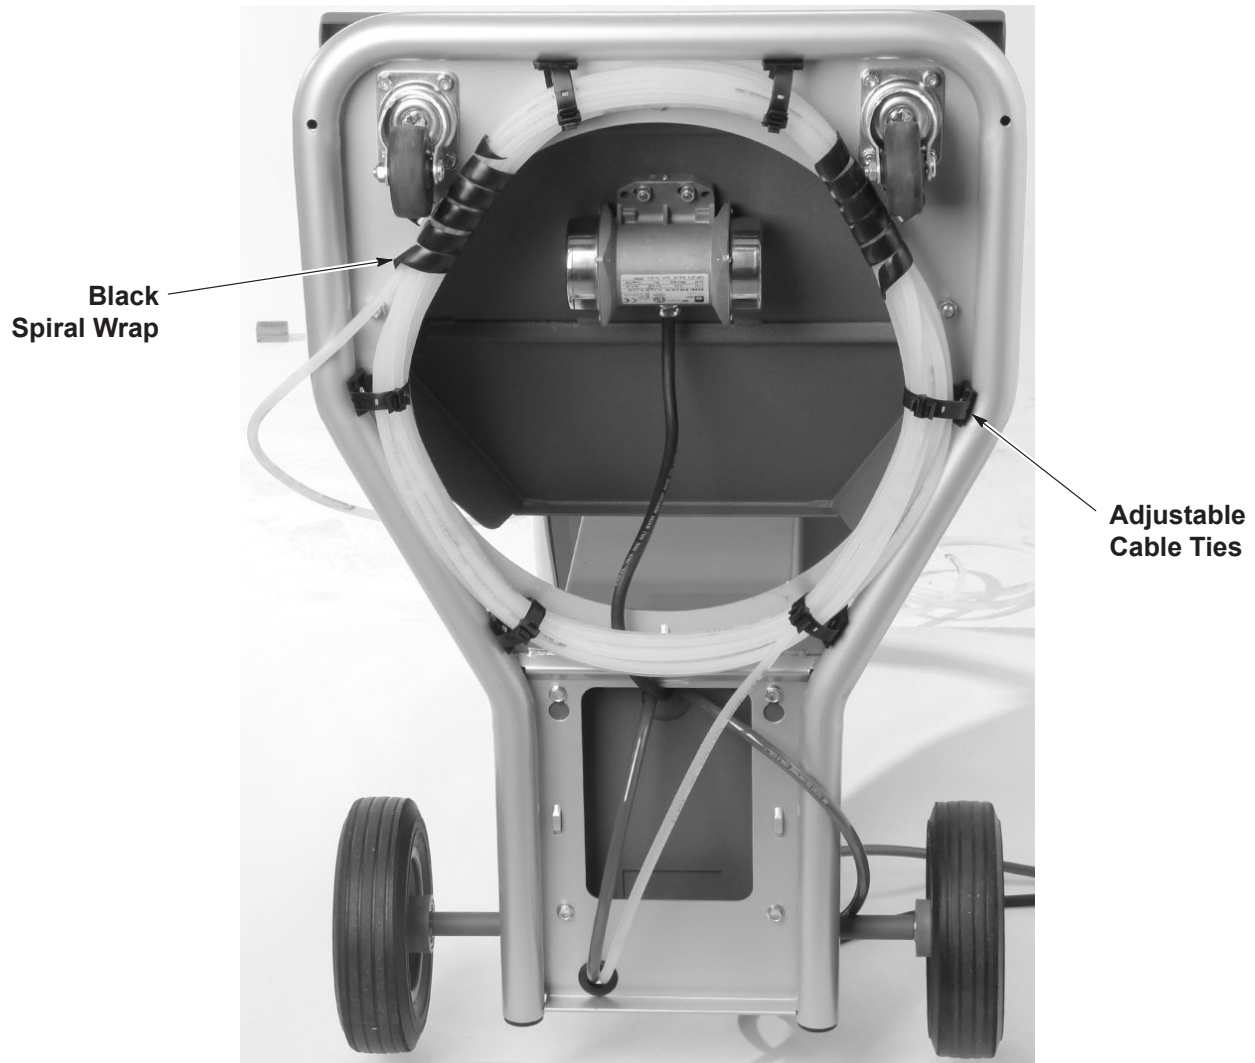

Figure 3-9 Bundling Tubing (Shown with Mobile System)
See Figure 3-9. Use the sections of black spiral wrap supplied with the system to bundle together the spray gun cable, air tubing, and powder hose.
**NOTE:** See Figure 3-9. The minimum powder hose length is 60 ft.